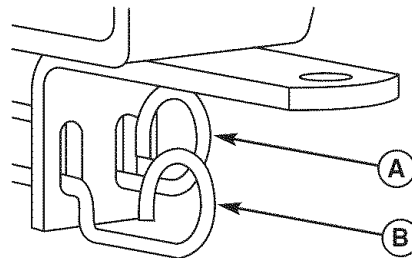

Figure 3. Transmission Release Levers
2. Locate the transmission release levers (A & B, Figure 3) at the rear of the unit.
3. Pull both levers back and down to release the transmissions (position B, Figure 3).
5. After moving the rider, set the parking brake to PARK and move the transmission release levers up and in to re-engage the transmissions (position A, Figure 3).